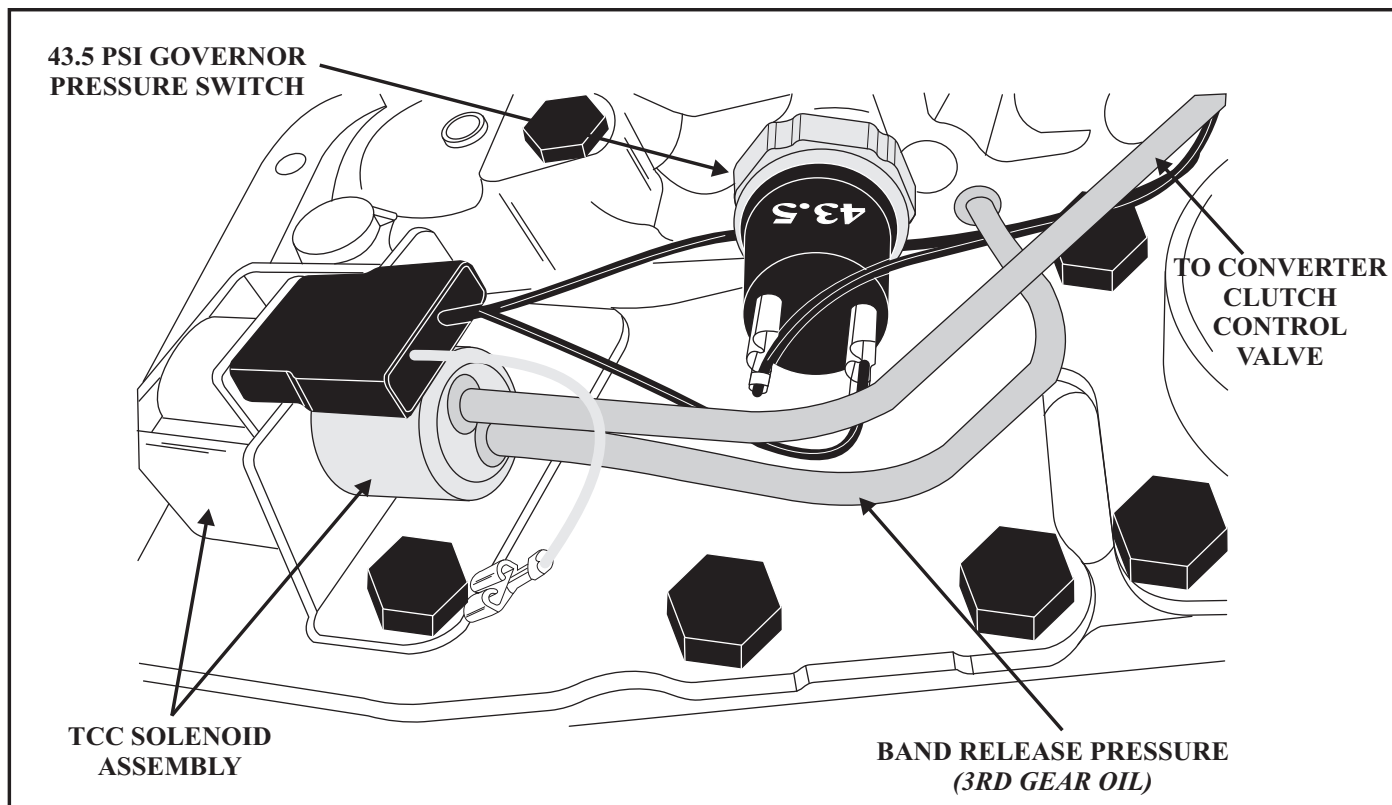
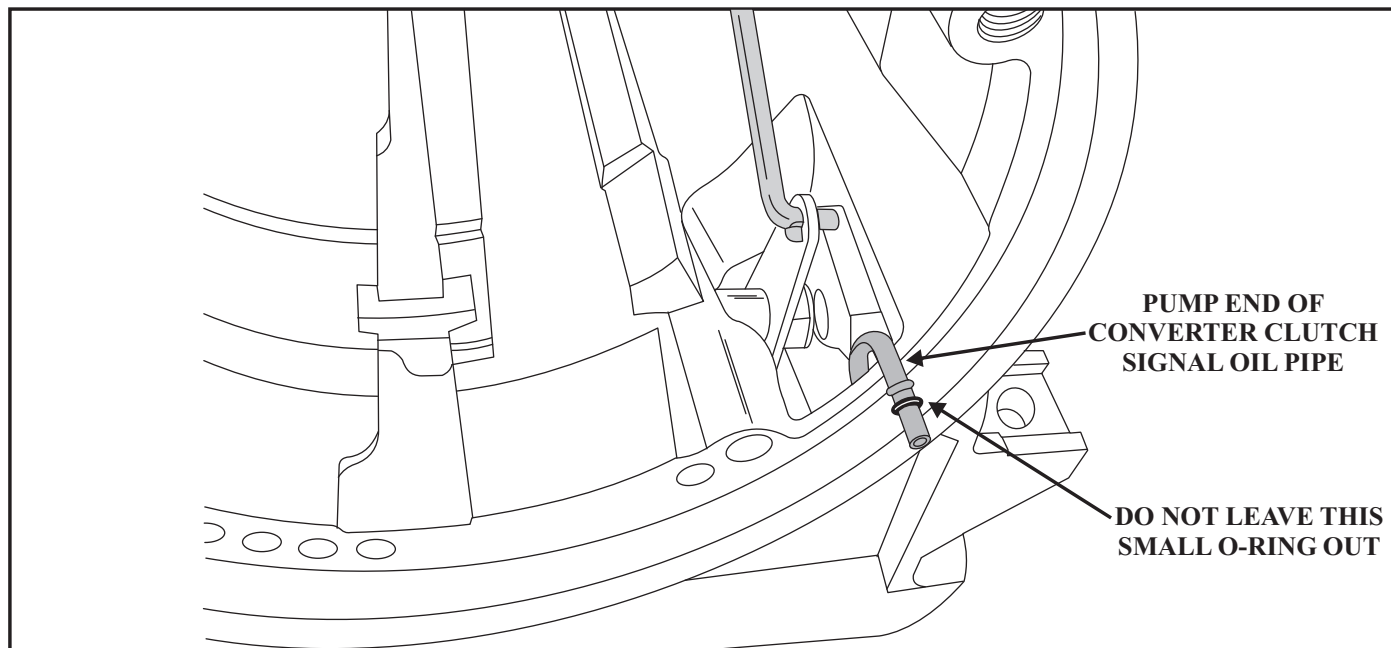
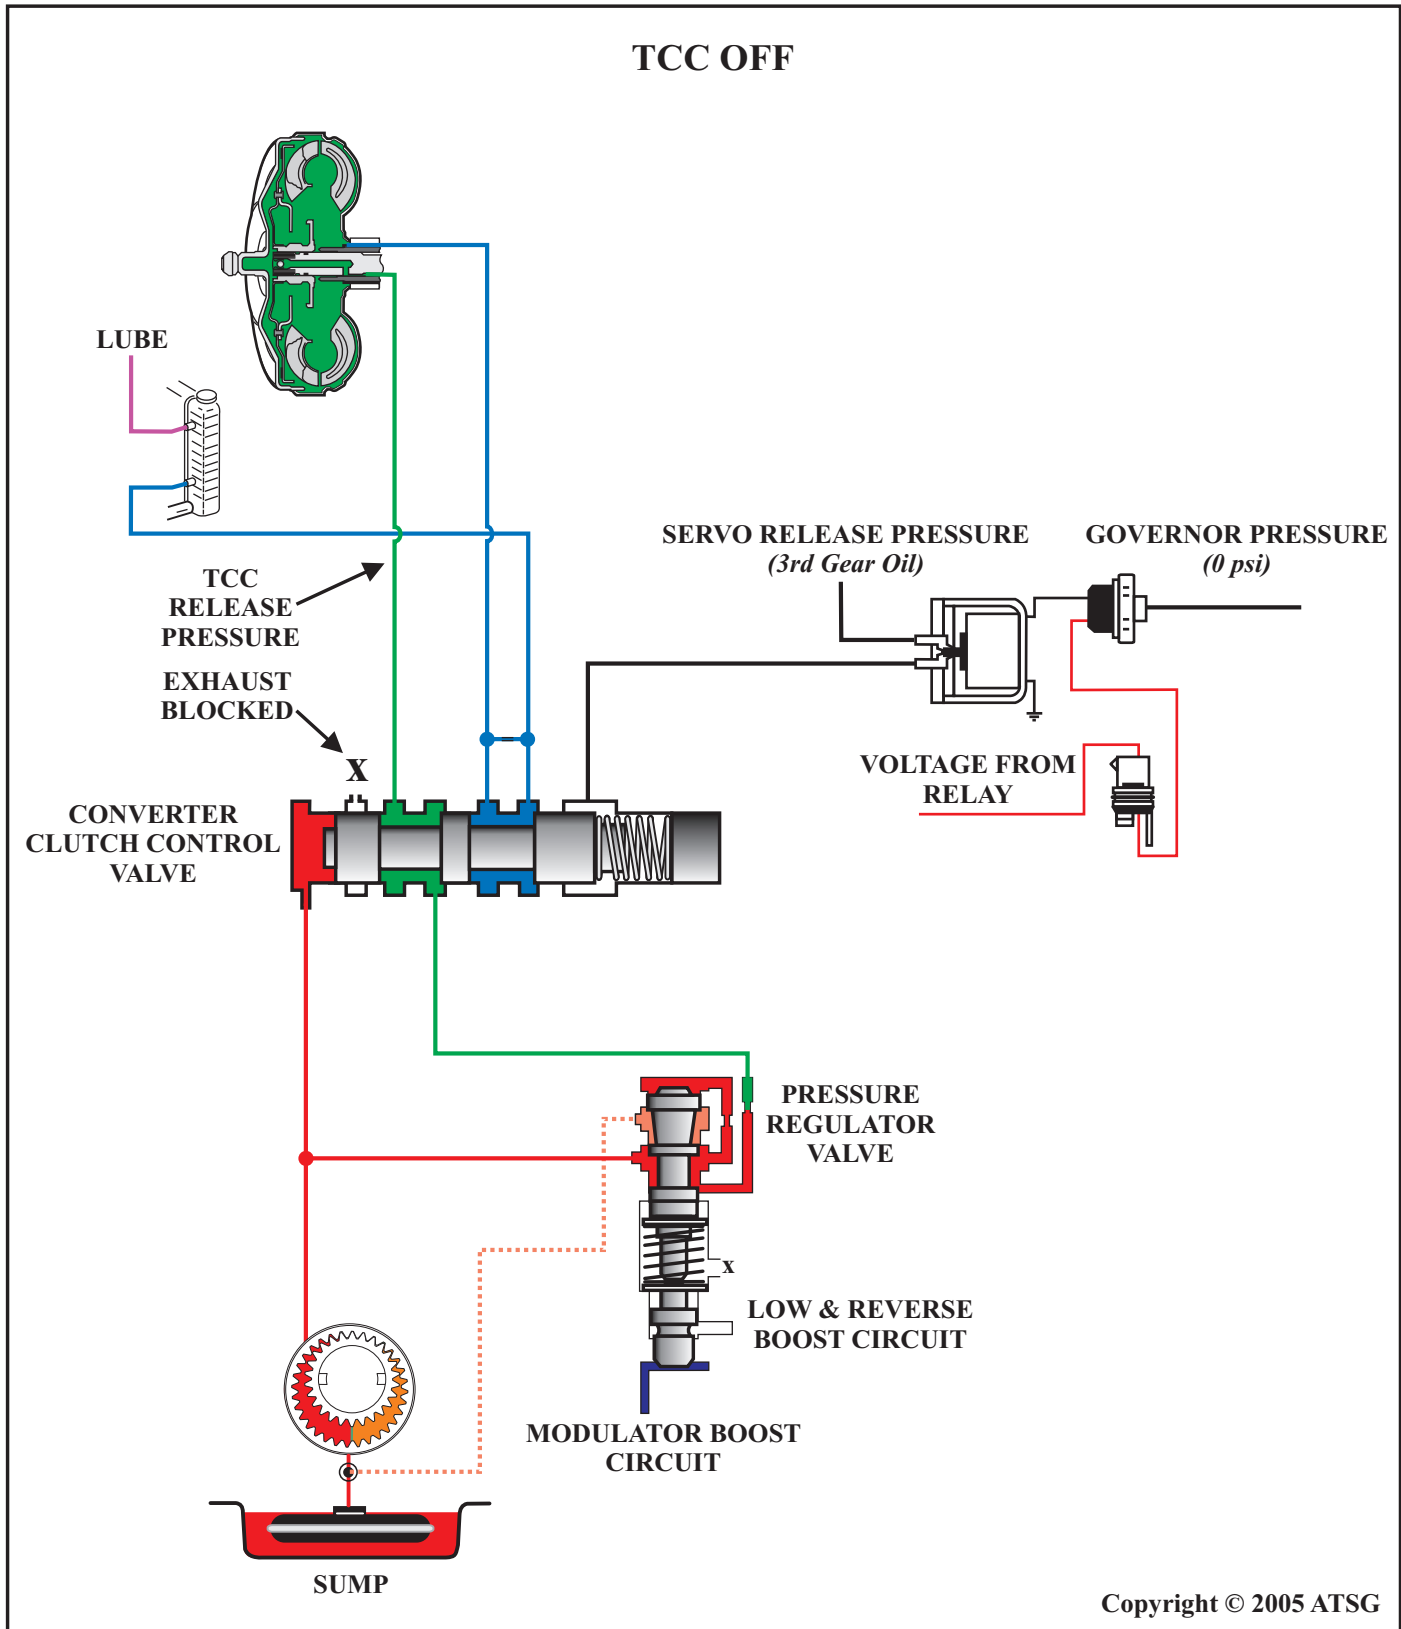

Figure 1
Figure 3
Figure 5
**CORRECTION:** The internal adaptation and description of the components used to control converter clutch apply can be seen in Figures 1 and 2. The bottom pipe coming from the valve body is band release pressure otherwise known as third gear oil. This ensures that the vehicle will never have TCC until 3rd gear. When the solenoid is energized this oil is routed through the upper pipe to the pump cover (Figure 3 and 4) where it strokes the converter clutch control valve into the lock up position.
In addition to the solenoid receiving 3rd gear oil, a governor pressure switch is utilized to time control (*via speed*) a voltage supply to the solenoid. In the example shown in Figures 1 and 2, it can be noticed that the pressure switch is rated to close at 43.5 psi. Also notice that the solenoid is permanently grounded. Putting this together with considering a properly operating system, 3rd gear is typically reached by approximately 35 miles per hour. This means the solenoid will have received 3rd gear oil before governor pressure is high enough to close the switch (*The idea is to prevent a converter clutch apply on top of the 2-3 shift*). Once governor pressure increases enough to close the switch (*40 mph or above*), voltage is supplied to the “already grounded” solenoid. Once energized, third gear oil is allowed to pass through the solenoid and stroke the converter clutch control valve in the pump (See the partial hydraulics in Figures 5 and 6).